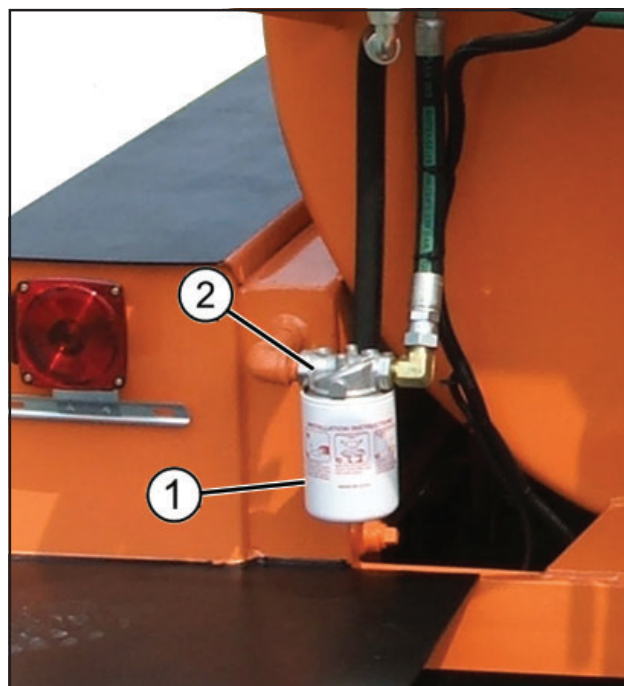

Figure 5-9
1. Remove the hydraulic filter (1, Figure 5-9) with an automobile oil filter wrench. Dispose of the used filter in accordance with local guidelines.
2. Clean the filter head (2, Figure 5-9) with a clean, lint free cloth. Be sure that all of the old gasket material is removed.
3. Remove the drain plug (3, Figure 5-9) and drain the hydraulic tank. Dispose of the used hydraulic oil in accordance with local regulations. When the tank is drained, reinstall the drain plug and tighten securely.